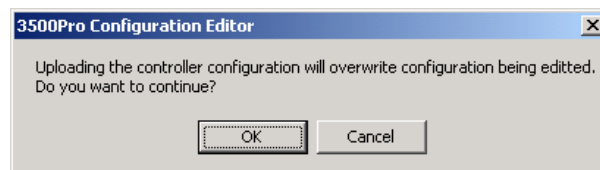

Figure 70: Confirm Configuration File Upload
2. Select File > Upload Configuration From Controller. If a configuration file is currently open, the following message displays (see Figure 70):